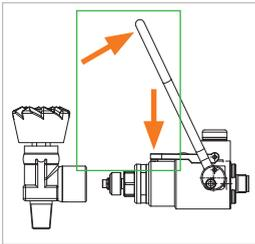

Figure 4
- ▶ Press and hold down the locking device (Pos. 8) and then fold the actuation unit (Pos. 1) upwards (Figure 4). The clamping jaws will close together.